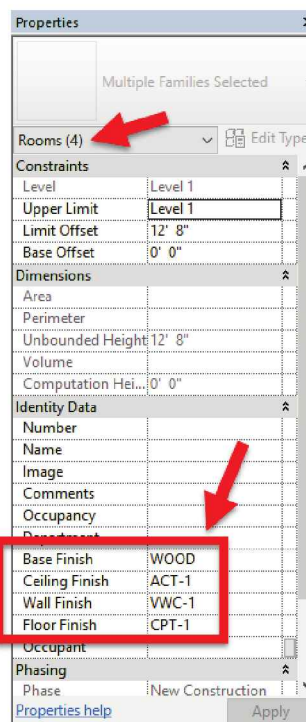

FIGURE 12-3.6
16. Enter the following for the finishes (Figure 12-3.6):